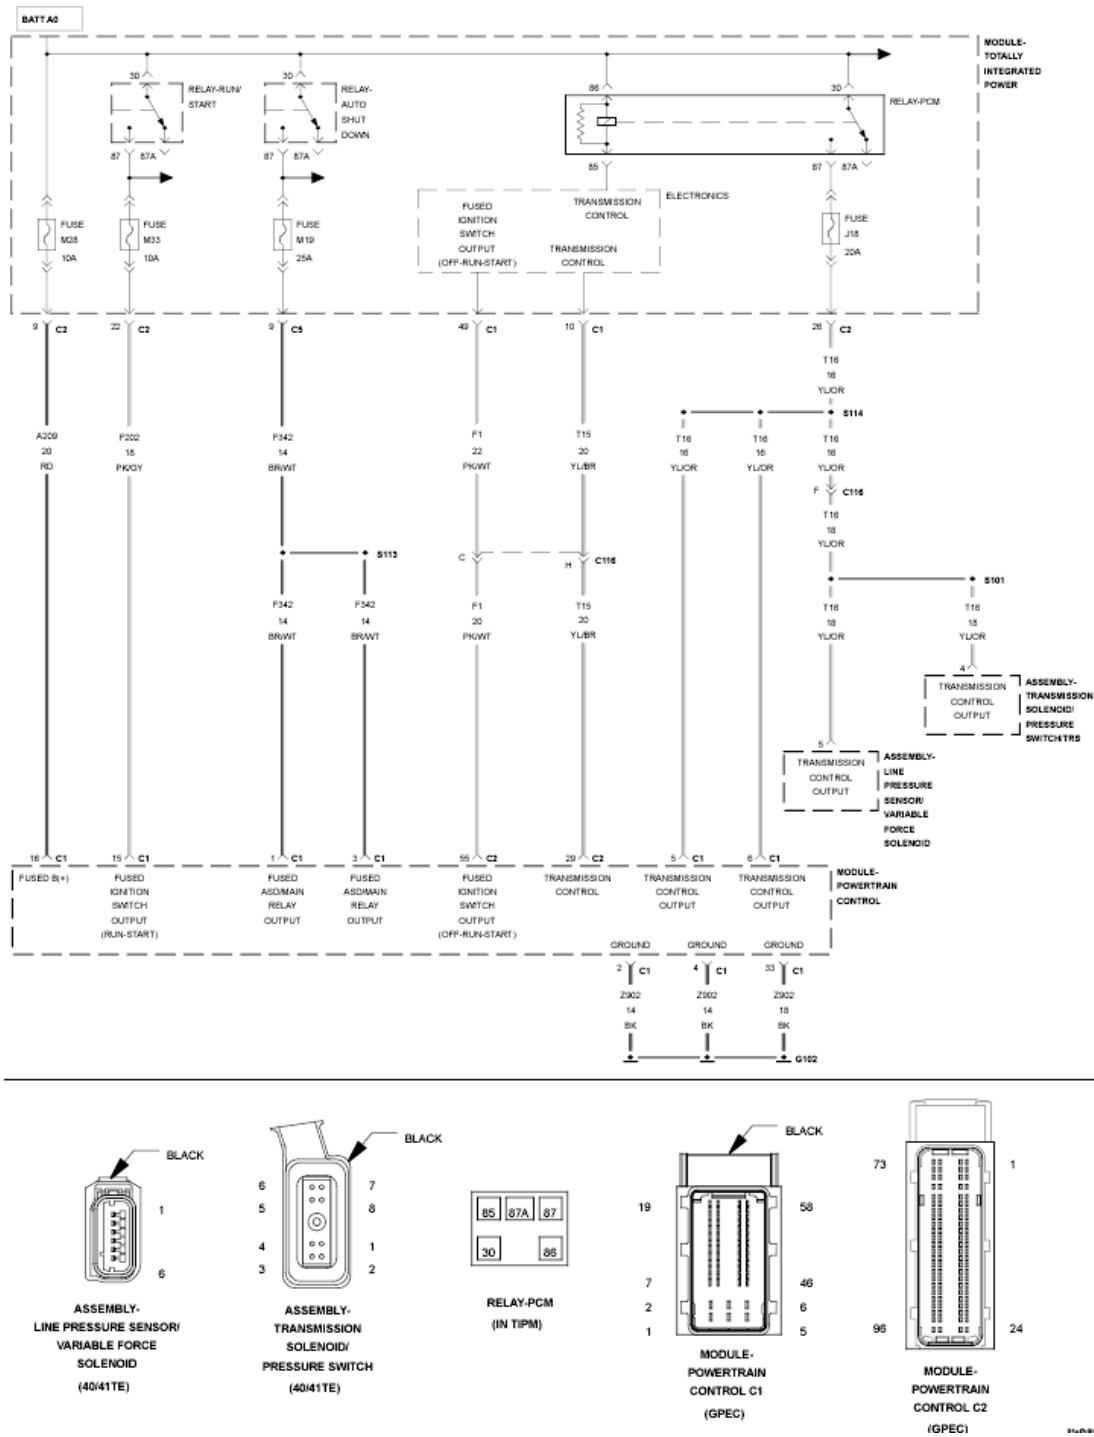

Fig. 67: TCM Power Control - Circuit Schematic
2. Using **Fig. 67** as a guide, inspect the wiring and connectors.